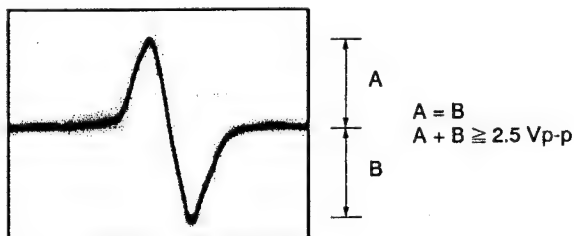

Figure 8
3. While watching the oscilloscope screen, press the MULTI MEMORY STORE key and observe the waveform in Figure 8 for a moment. Verify that the amplitude is at least 2.5 Vp-p and that the positive and negative amplitude are about equal. Since the waveform is only output for a moment when the MULTI MEMORY STORE key is pressed, press this key over and over until you have checked the waveform.